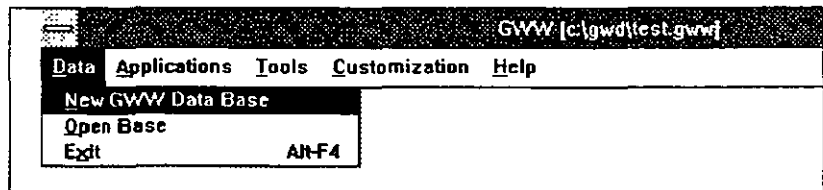

Figure 2-2
1. Select Data from the menu bar. The display is as shown in Figure 2-2.